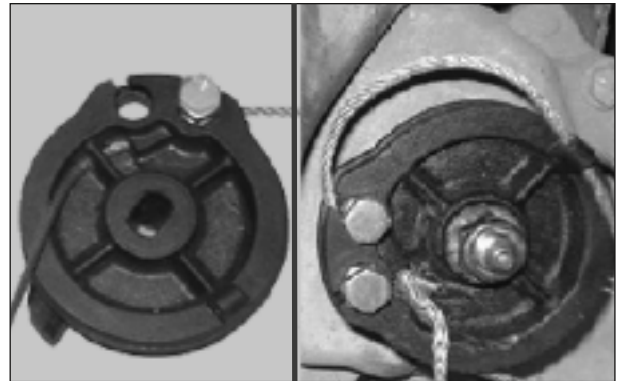

Fig. 5.18
- Connect the cable inner gear shift to the pulley gear shift by routing it through pinch bolts and holes provided on the pulley gear shift (Fig. 5.18)